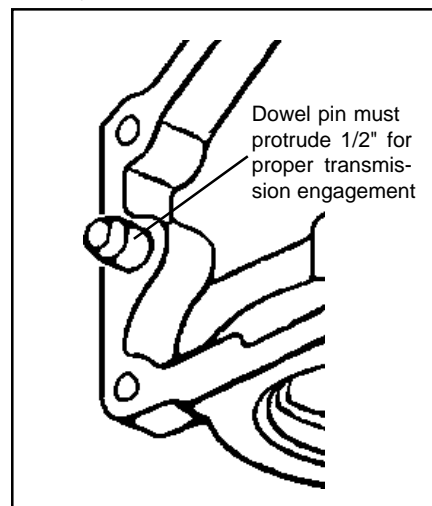

Fig. 2
STEP 7. Inspect the engine block's transmission mounting face to be free of any dirt or burrs. Make sure both dowel pins are installed and stick out of the block at least 1/2" to insure proper transmission alignment, see (Fig. 2).